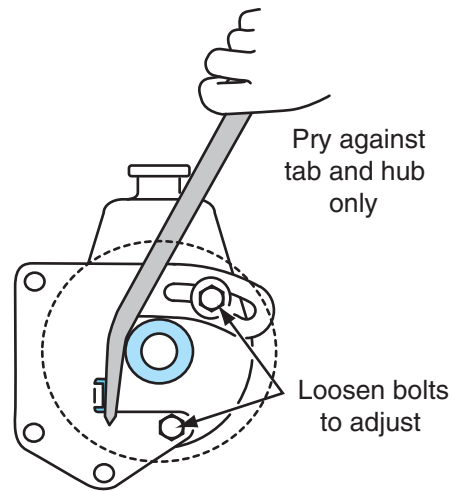

FIGURE 17.83 When tightening the power steering belt, pry only in the designated area to avoid damage.
- Install all pulleys, accessories, and belts. If the engine has V-belts, use a belt tension gauge to adjust belt tension. Manufacturers usually provide a suitable place to pry on the pump housing (**Figure 17.83**). When adjusting power steering belt tension, be careful not to pry against the sheet metal portion of the pump; the pump may be damaged.